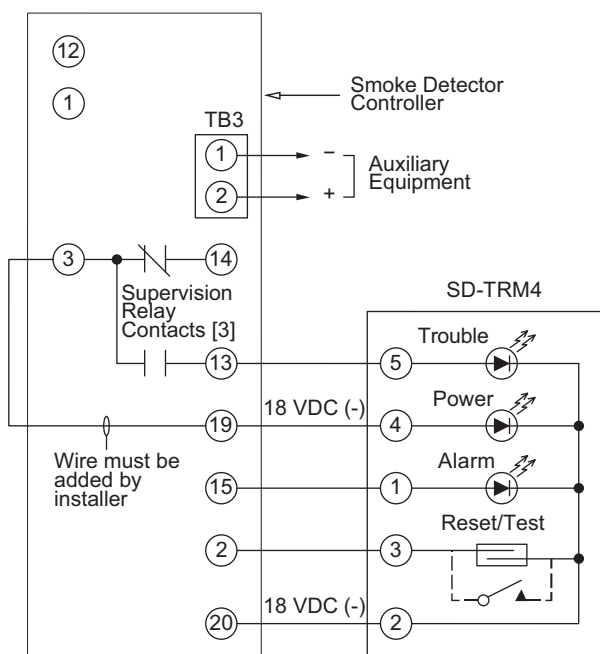

Fig. 49 — Remote Test/Reset Station Connections
The test/reset station dirty sensor test checks the test/reset station's ability to initiate a sensor dirty test and indicate the results. It must be wired to the controller as shown in Fig. 49 and configured to operate the controller's supervision relay. For more information, see "Dirty Sensor Test" on page 31.
1. Verify that the remote test/station is wired as shown in Fig. 49. Repair or replace loose or missing wiring.